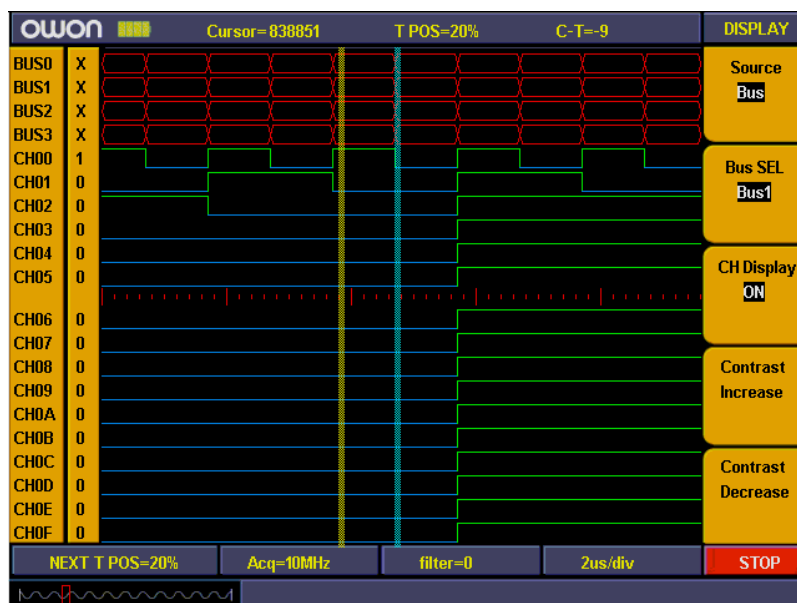

Fig.14
7. Press “**F3**” and set signal sources as “**OFF**”. Repeat operation of steps 6.7 and set BUS1、BUS2、BUS3 all as “**OFF**”. Ref to Fig.14